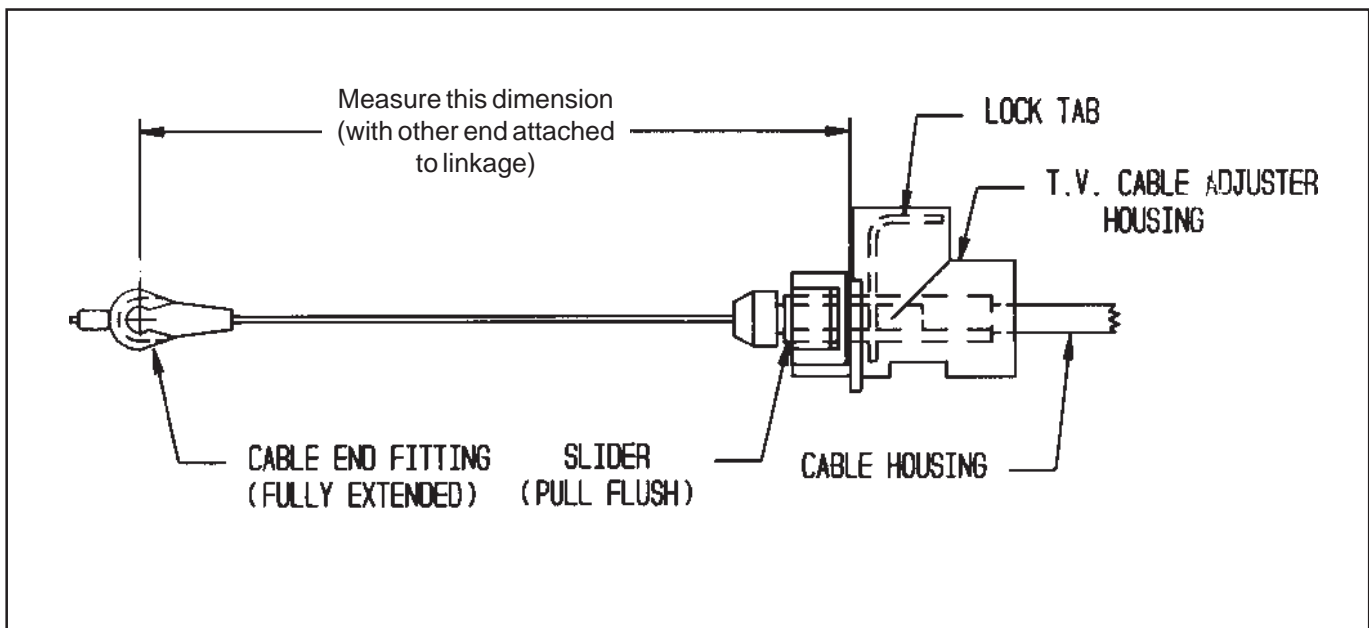

Figure 15
STEP 1. Measure your T.V. cable to establish its particular mounting dimension (there are several lengths in use.) as follows (See Fig. 15). Retract